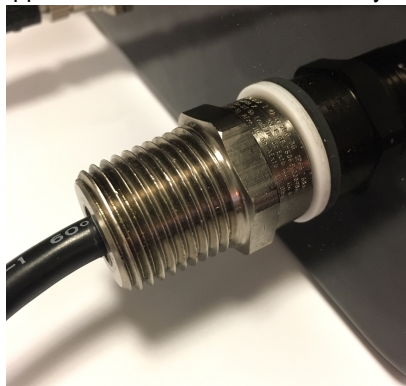

Figure 2. Metallic Adapter
4. Install conduit seal (installer supplied) over metallic adapter shown in Figure 2.